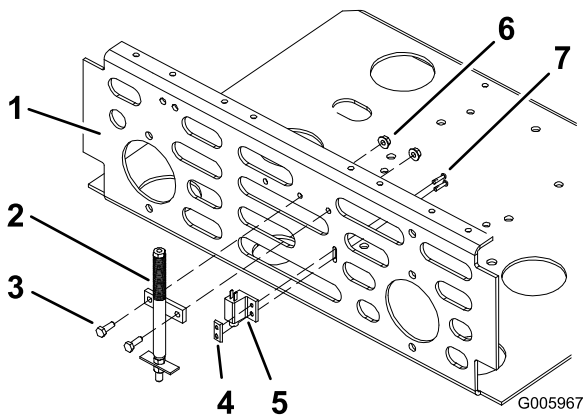

Figure 4
5. Using the screws and the tapped plate, attach the switch to the vertical frame panel at the rear of the compartment under the seat as shown in Figure 4.
6. Attach the Z200/500 actuator assembly to the vertical frame panel at the rear of the compartment under the seat (Figure 4) using the two bolts (1/4 x 3/4 inch) and two flange nuts (1/4 inch) included in the assembly.